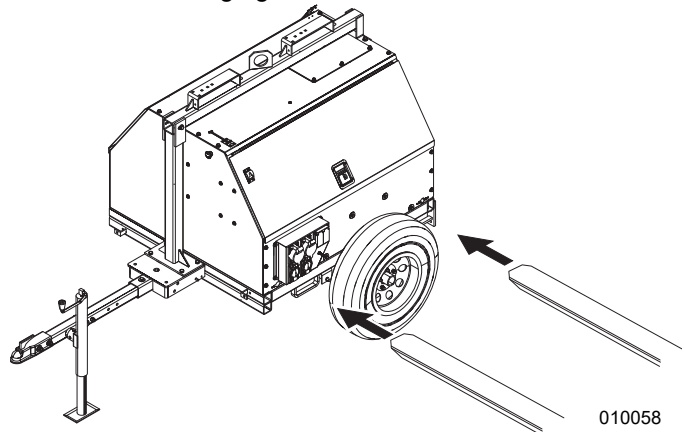

Figure 3-8. Perpendicular Approach
3. See **Figure 3-8**. Approach unit perpendicularly to avoid damaging the unit.